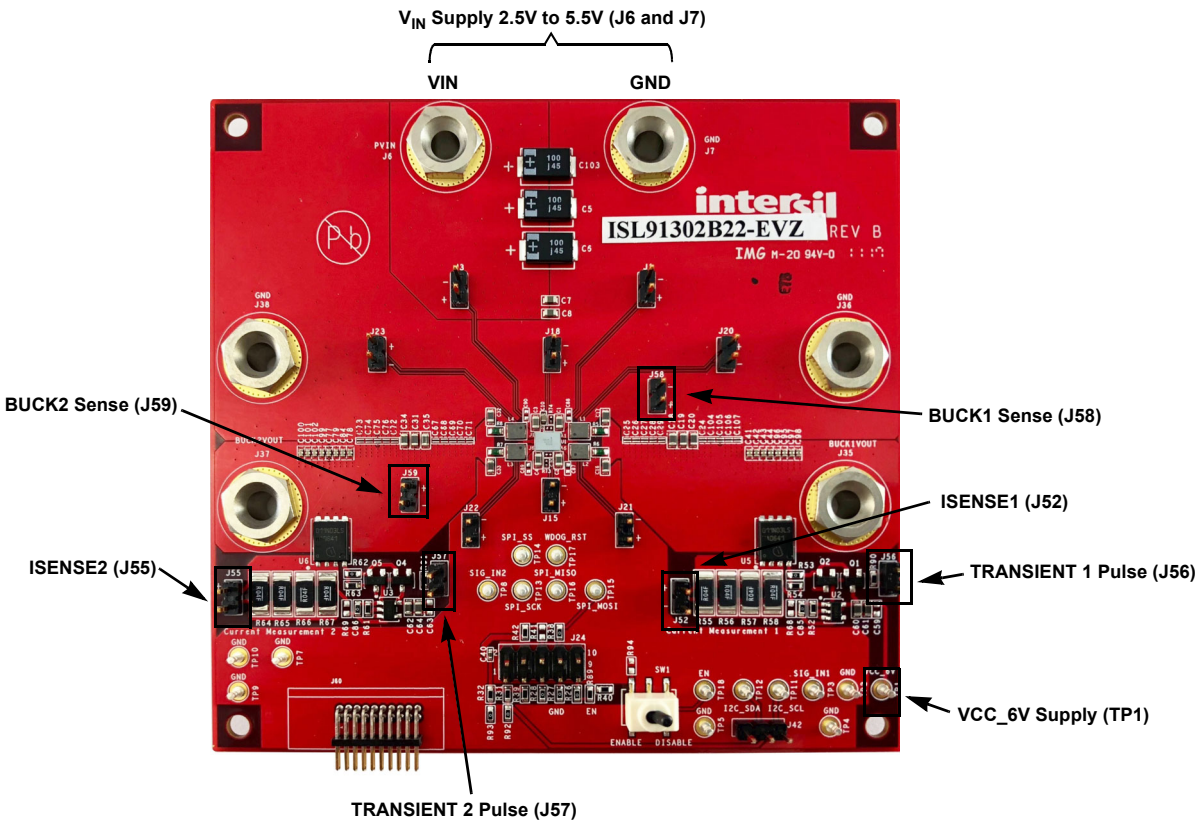

Figure 12. ISL91302B22-EVZ Load Transient Measurement Connections
- (1) Go through the setup procedure (see “Setup Guide” on page 5). The ISL91302B22-EVZ should already be powered up with 2.5V to 5.5V at J6 ( $V_{IN}$  supply) and 6V at TP1 (VCC\_6V).
- (2) Connect a slew rate controllable signal generator to transient load circuit input, J56 (TRANSIENT 1 PULSE GEN) or J57 (TRANSIENT 2 PULSE GEN).
- (3) Program the signal generator to pulse mode, set the frequency to 100Hz, ON duration to 200 $\mu$ s, and signal amplitude from 0V to 2V. The load transient circuit starts to turn on when the input is  $\sim$ 2.6V. When in doubt, connect the signal generator output to an oscilloscope set to 1M $\Omega$  termination. The slew rate of the pulse, both rising and falling, should be conservatively slow, for example, 1 $\mu$ s.
- (4) Connect a differential probe to monitor load current across the sense resistors J52 (ISENSE1) or J55 (ISENSE2). The load current can be accurately converted to a voltage at 1A/10mV. Make sure the vertical scale of the oscilloscope is set properly to display the full amplitude of the load profile.
- (5) Connect a second differential probe at the VOUT sense points connected to the  $V_{OUT}$  decoupling capacitors, J58 (BUCK1 SENSE) or J59 (BUCK2 SENSE).
- (6) Set the oscilloscope to measure the rise and fall times and maximum level of the load current. Slowly increase the signal generator amplitude and slew rate until desired load profile is achieved. For detailed setup information, refer to Figure 12 on page 10.